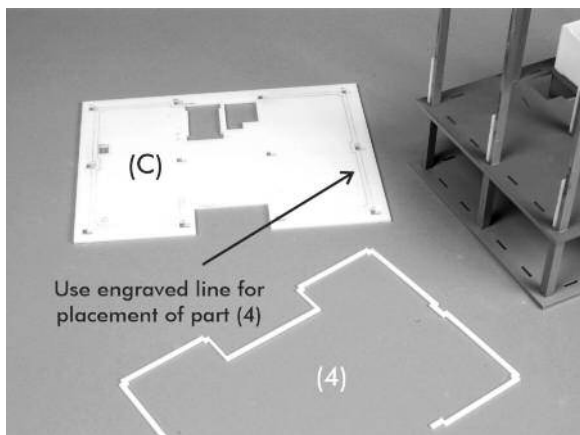

Figure 10
Place part (C) flat on your work table with the engraved lines facing up. Glue part (4) to part (C) using the engraved lines for placement. See Figure 10.